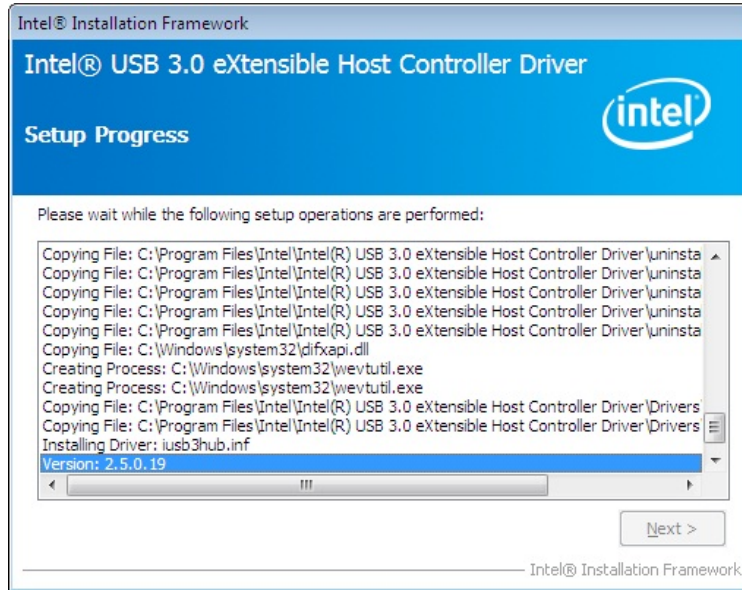

Figure 6-23: USB 3.0 Driver Setup Operations
Step 11: Setup Operations are performed as shown in **Figure 6-23**.